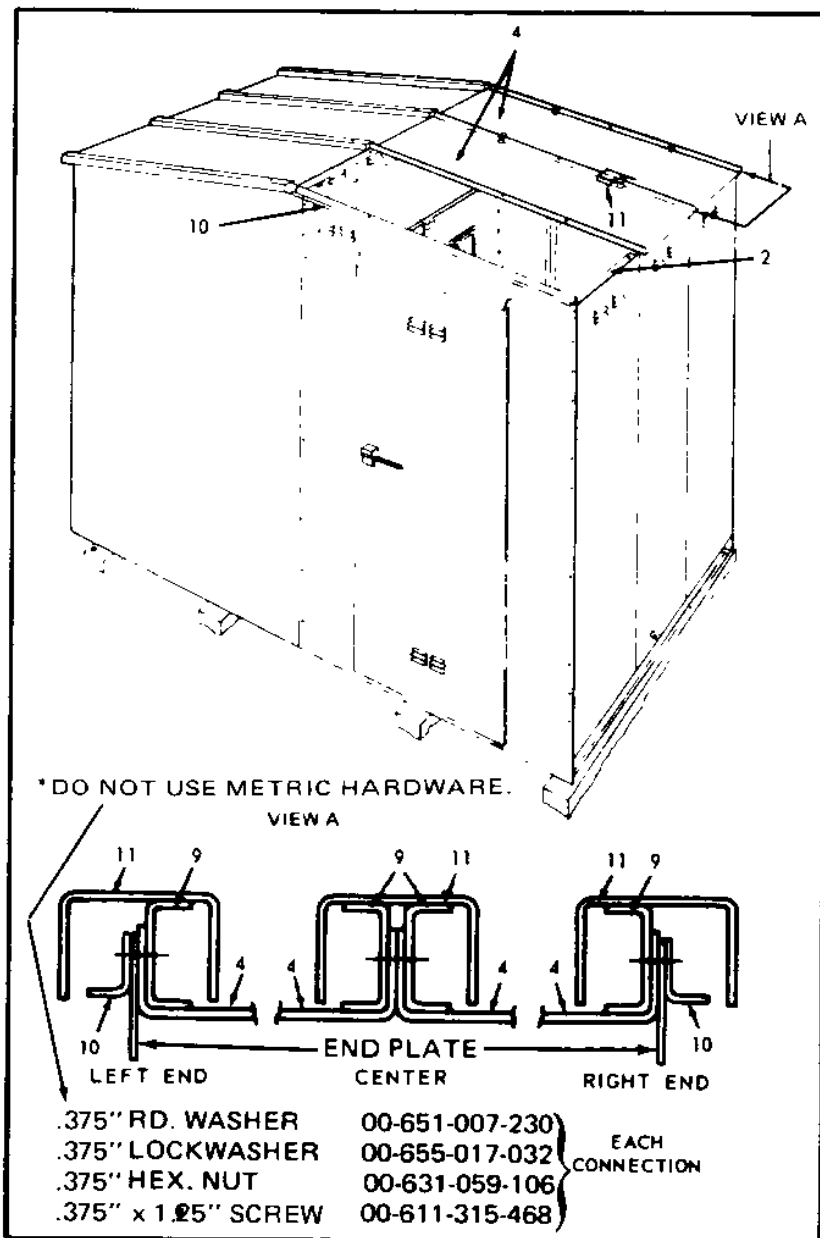
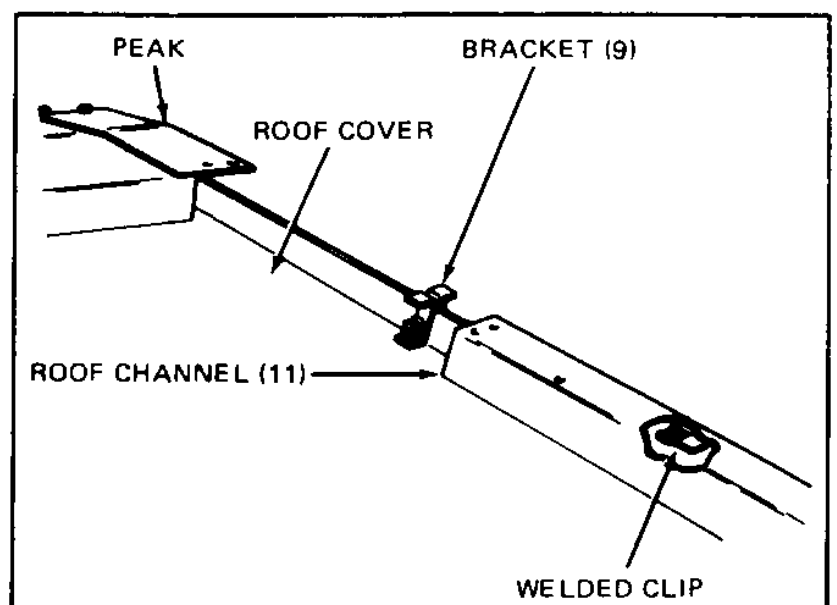
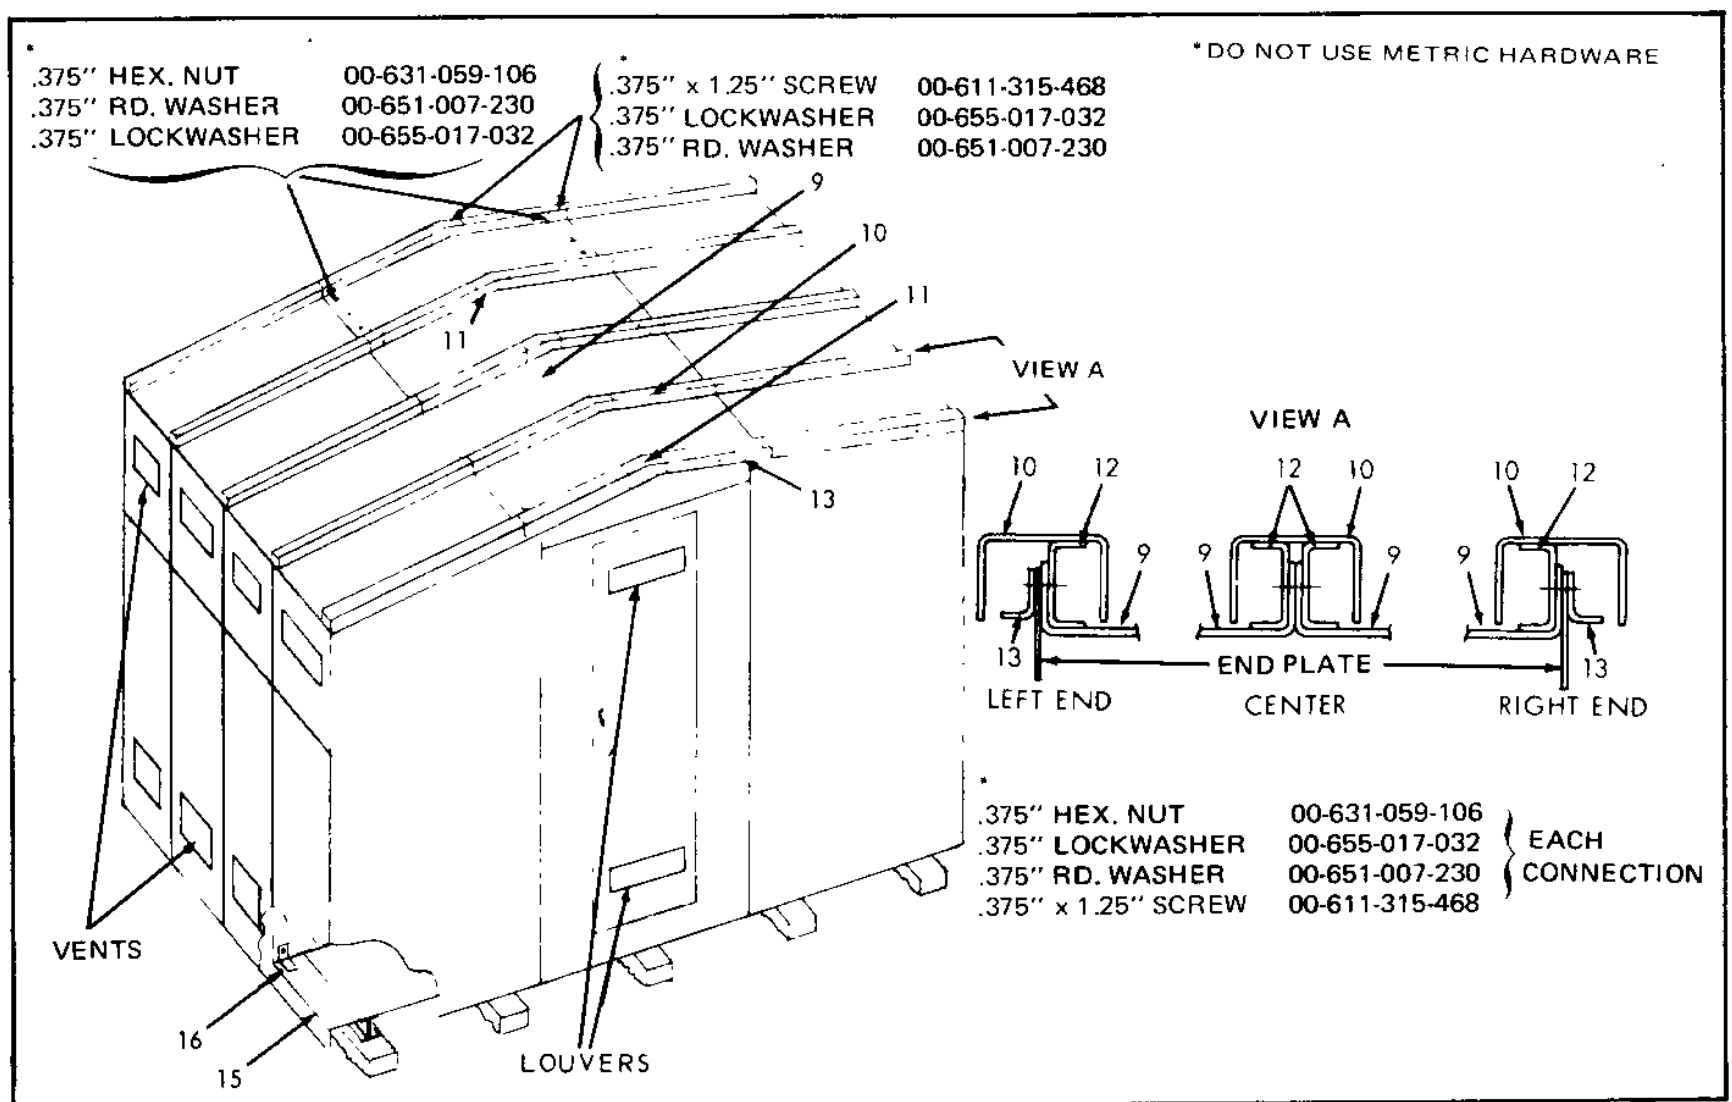

Figure 28. Roof Covers Installation – Single Aisle Layout
Figure 29. Roof Channel Installation – Single Aisle Layout
Figure 35. Roof Deck Installation – Common Aisle Layout
8. See Figure 28. Put all roof covers (4) in place and bolt to aisle wall assembly (2) and roof support.
9. Fasten roof covers together using bracket (9) at positions "E" (two per joint) See view "A".
10. Install a trim angle (10) at each end of aisle.
11. See Figure 29. Set roof channels (11) over roof cover joints. Slide the channel toward the roof peak until the clip inside the channel engages the bracket (9).
9. See Figure 35. Place roof decks (9) in position and fasten with the bolts provided.
10. Fasten roof decks together using bracket (12). See view "A".
12. Set channel-shaped covers (10) over the joints of roof decks and slide up the covers so the clips on the inner surface (See Figure 29) engage the brackets (12).
13. Bolt hoods (11) in place.
15. Drill cable cover (15) to suit conduit. Clamp the cover in place with angle (16).